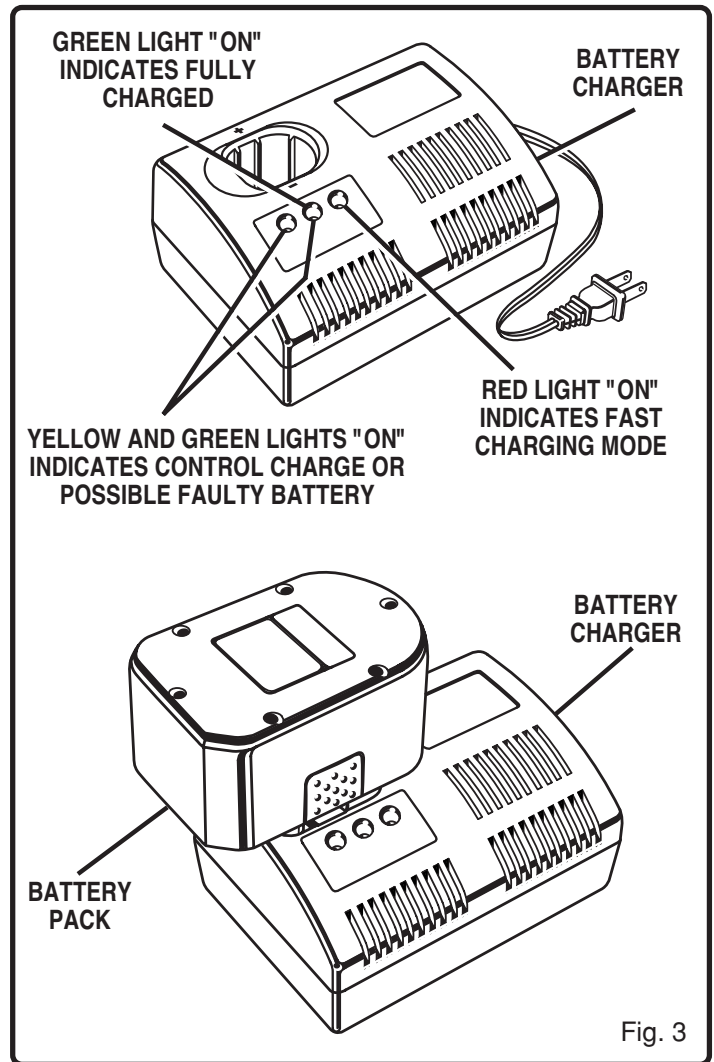

Fig. 3
See Figure 3.
- Place battery pack in charger. See Figure 3. Align raised rib on battery pack with groove in charger.